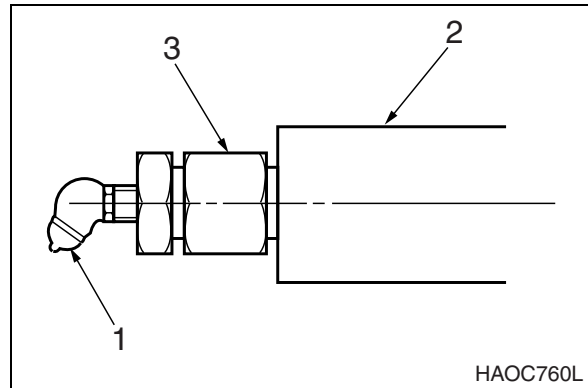

Figure 3
5. Track tension adjustments are made through the grease fitting (1, Figure 3) in the middle of each side frame. Adding grease increases the length of an adjustment cylinder (2). The longer the adjustment cylinder, the greater the pressure on the tension spring pushing the track idler wheel outward.
6. If there is not enough slack or clearance in the tracks and the adjustment is too tight, the idler wheel and adjusting cylinder can be retracted by bleeding off grease thru hole in adjustment cylinder (2, Figure 3).